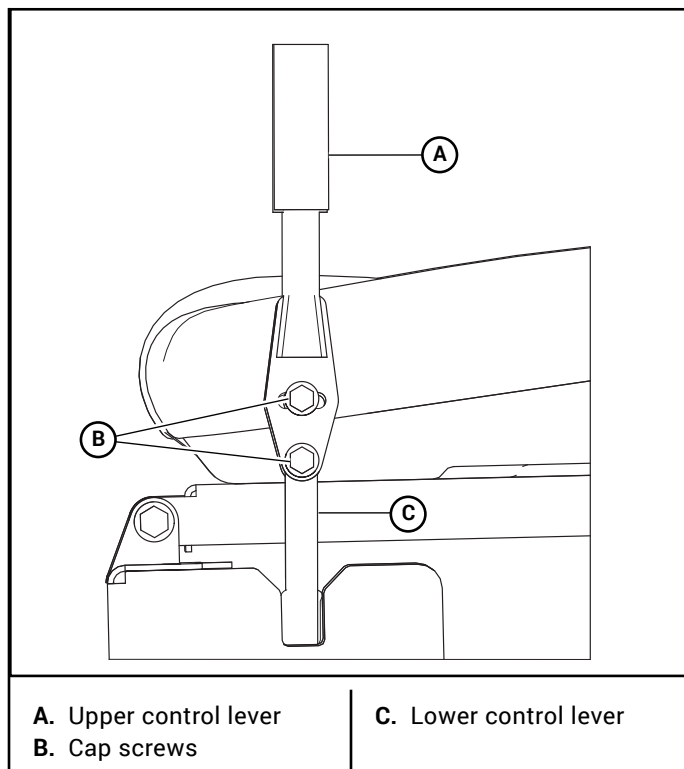

Figure 4-10
- A. To pivot the upper control levers forward or rearward, loosen the cap screws that attach the upper control lever to the lower lever. Then, pivot the upper control lever. Tighten the cap screws. Figure 4-10